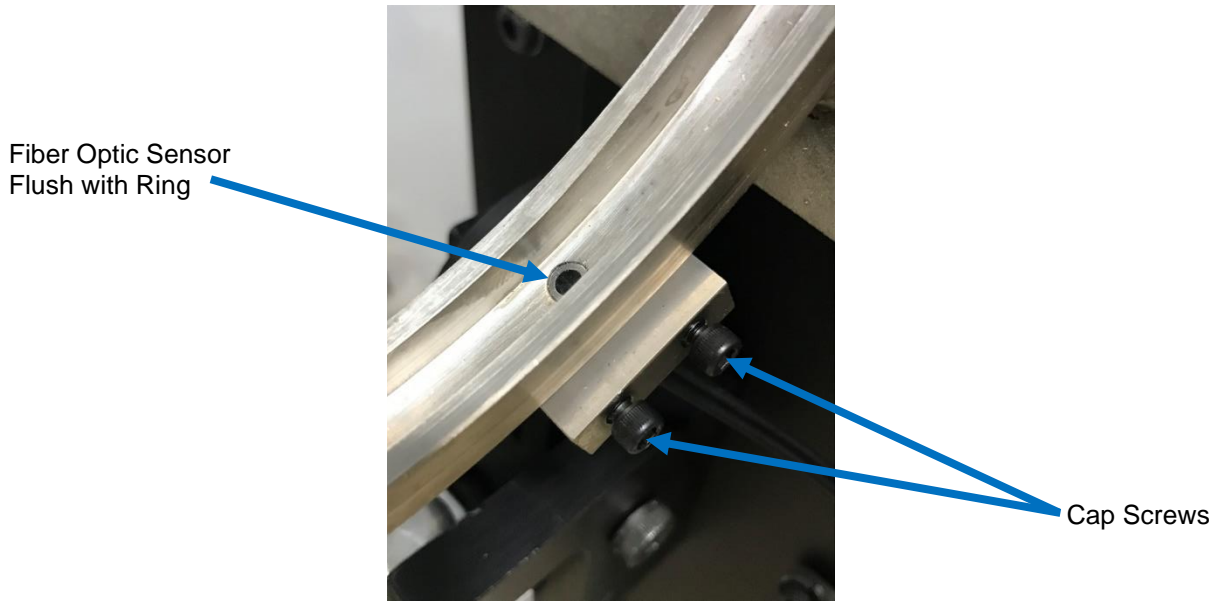

Figure 2.2.4 Proper Placement of Fiber Optic Sensor
- The fiber optic sensor on the bottom of the ring must also be set correctly to ensure the tie is fed the correct amount during the tying process. The sensor should sit flush with the inside tie groove as shown in Figure 2.2.4 below.